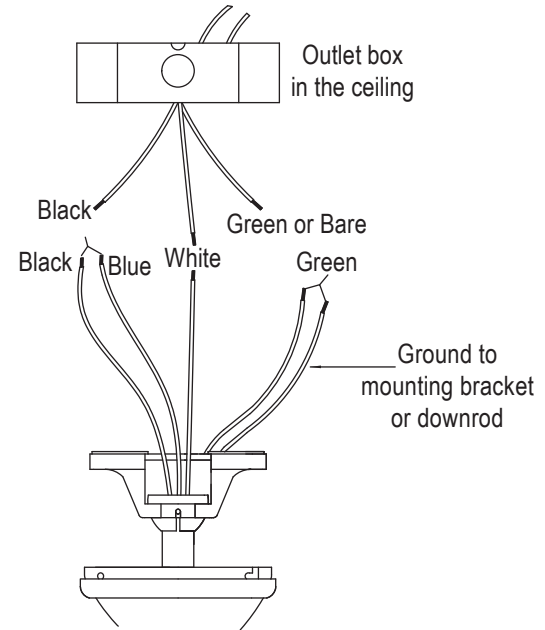

Fig. 11
**Step 1.** Connect the fan supply (black) wire and light supply (blue) wire to the black household supply wire as shown in Figure 11.